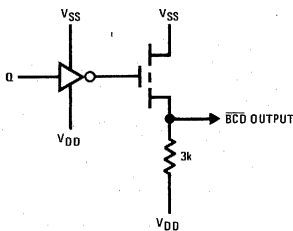
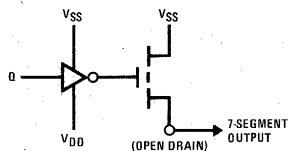
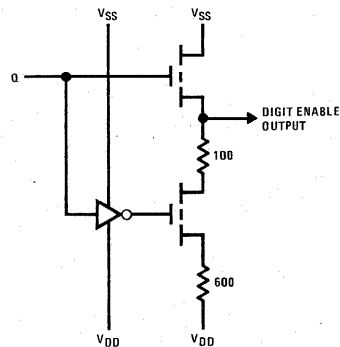
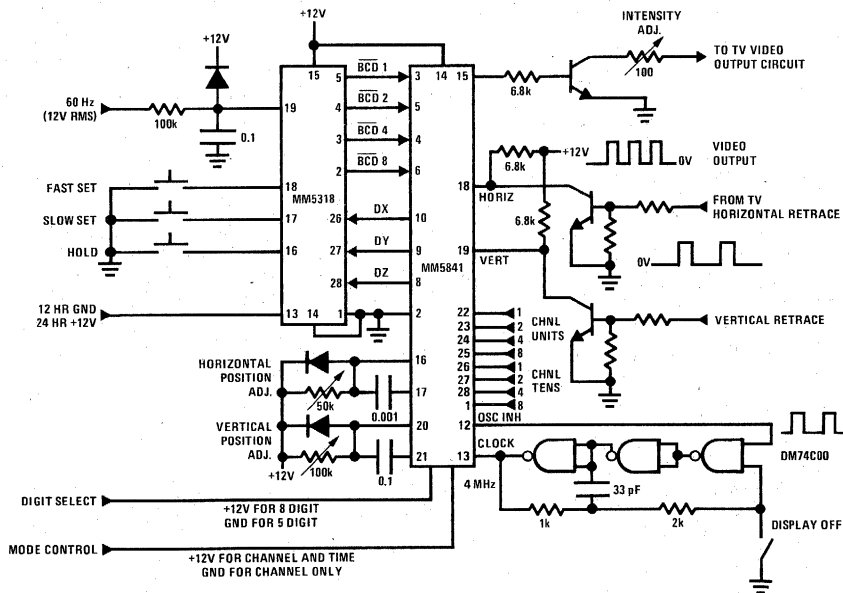

FIGURE 3. BCD Output Circuit
FIGURE 4. 7-Segment Output Circuit
FIGURE 5. Digit Enable Output Circuit
FIGURE 6. TV Channel and Time Display
**50 or 60 Hz Drive:** This input is applied to a Schmitt Trigger shaping circuit which provides approximately 5V of hysteresis and allows using a filtered sinewave input. A simple RC filter such as shown in *Figure 6* should be used to remove possible line voltage transients that could either cause the clock to gain time or damage the device. The shaper output drives a counter chain which performs the timekeeping function.
**Output Circuits:** *Figure 3* illustrates the circuit used for the  $\overline{BCD}$  outputs. *Figure 4* shows the circuit used for the 7-segment outputs. The digit enables output circuit is shown in *Figure 5*. *Figures 6 and 7* illustrate typical applications for the MM5318.